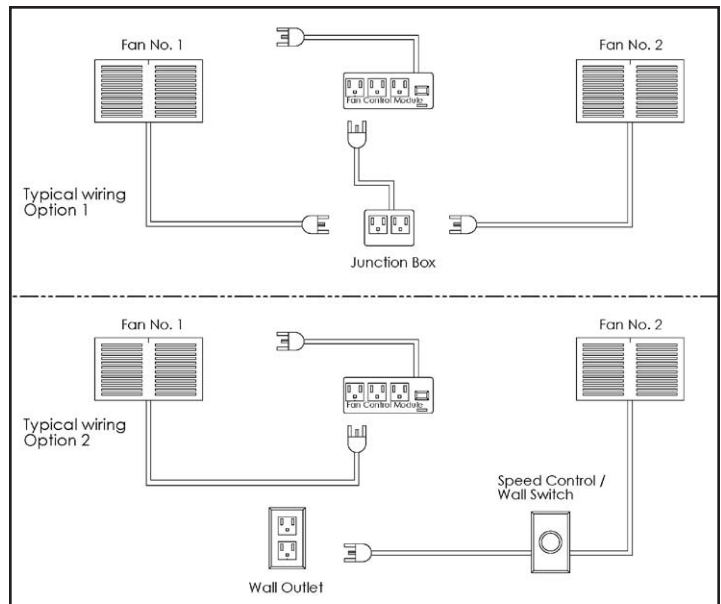

Figure 9: Fan wiring options.
- f) For wiring options see Figure 9.